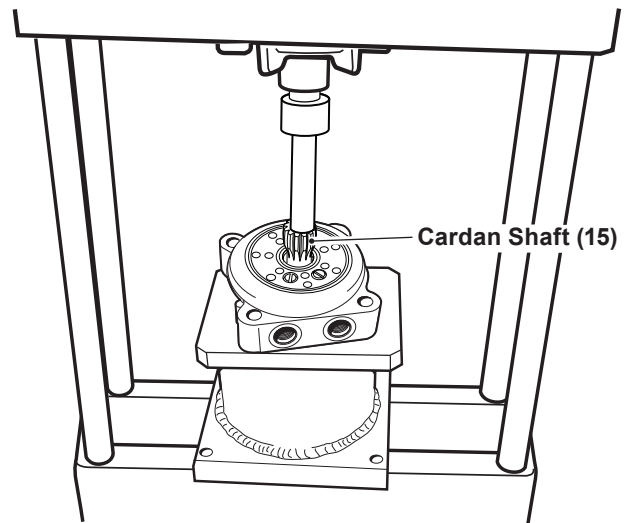

Figure 12, Output Shaft
1. Remove castellated nut (1), woodruff key (6), plastic plugs (8), retaining ring (2), seven screws (22), seven washers (23), end cover (19), the gearwheel set (17) with O-rings (16, 18), cardan shaft (15), distributor plate (14), and O-ring (13). See pages 4 - 8.
2. Place the motor in a hydraulic press — replace the cardan shaft (15) and press out the output shaft (7). See figure 12.